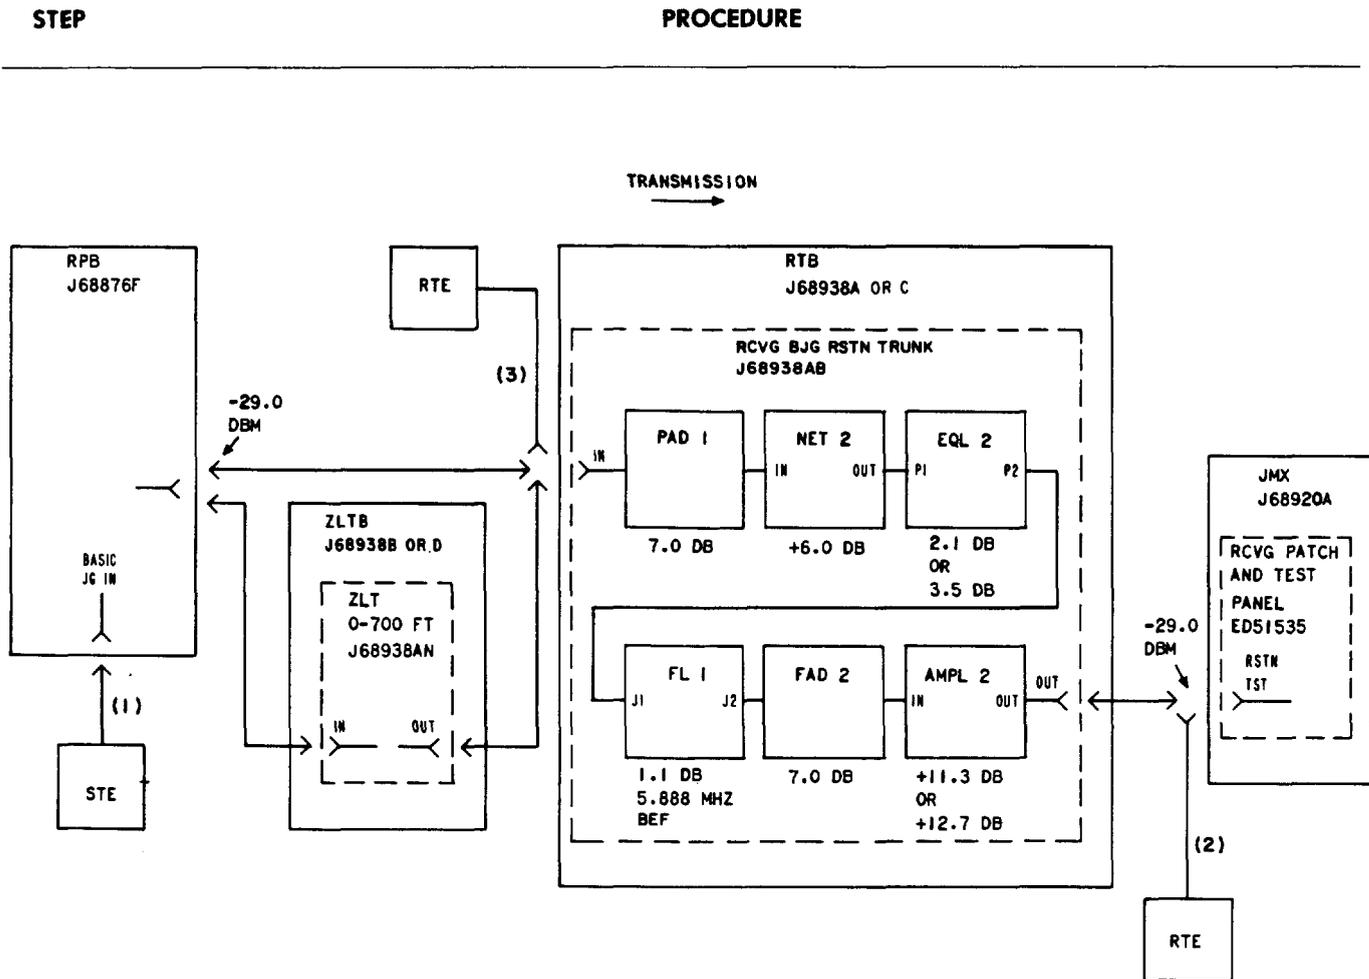

Fig. 3—Receiving BJB Restoration Trunk Circuit
4	Connect the STE to the BASIC JG IN jack at the RPB (J68876F) [Fig. 3, patch (1)].
5	Remove cable from the RSTN COMPL jack located on the back of the PATCH & TEST PANEL at the RCVG JMX. See local office records to determine proper jumbogroup. Connect RTE to the cable [Fig. 3, patch (2)].
9	Remove cable from the IN jack at the RCVG BJK RSTN TRUNK unit (J68938AB) in the RTB and connect cable to the RTE [Fig. 3, patch (3)].
21	Remove cable from the RSTN COMPL jack located in back of the RCVG PATCH & TEST PANEL at the RCVG JMX. See local office records to determine proper jumbogroup. Connect RTE to cable [Fig. 3, patch (2)].
38	Remove the STE from the BASIC JG IN jack in the RPB [Fig. 3, patch (1)].
39	At the RCVG JMX, remove cable from the RTE and restore to the RSTN COMPL jack on back of the PATCH & TEST panel [Fig. 3, patch (2)].